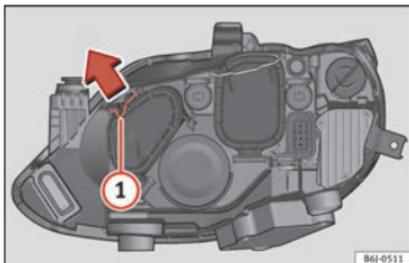

Fig. 97 Double headlight.
- Move the loop **1** in the direction of the arrow and remove the cover **» Fig. 97**.